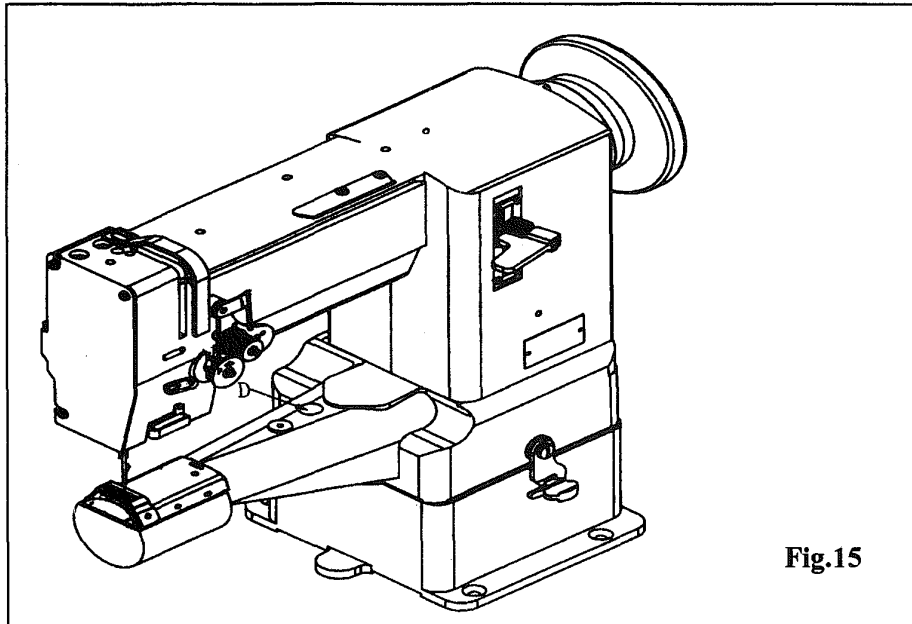

Fig.15
13. RE-SET THE SAFETY CLUTCH MECHANISM (Fig.15)